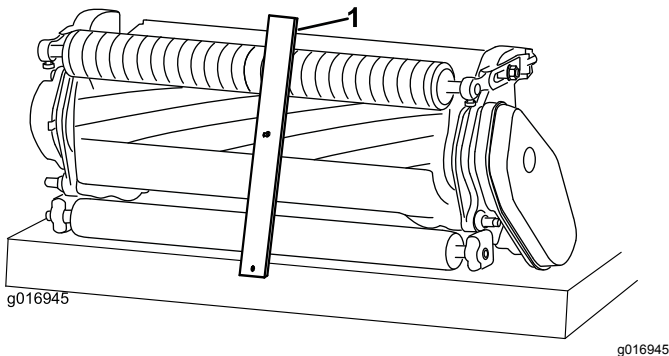

Figure 15
2. Hook the screw head of the height-of-cut gauge onto the right side of the cutting edge of the bedknife and rest the rear end of the bar onto the rear of the roller (Figure 15).